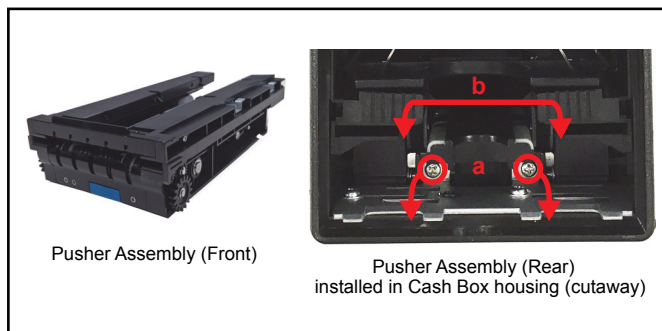

Figure 1 UBA Cash Box Pusher Assembly (P/N 900-100422R)
**Usage:** The UBA Cash Box Pusher Assembly (Figure 1) securely pushes accepted Banknotes into the UBA Cash Box, then moves to the home position.
- 2) Remove two screws from the lower Cash Box housing (Figure 1 a).
- 3) Slide (pull) the Pusher Assembly out of the Cash Box housing (Figure 1 b).